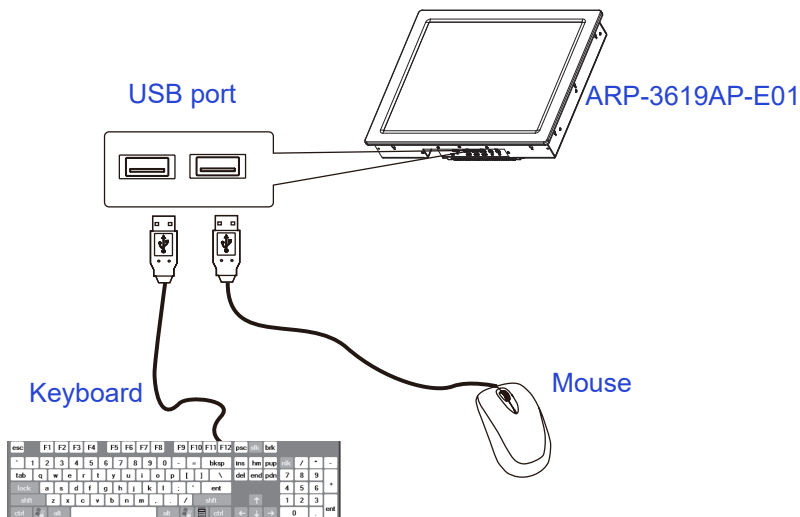

Figure 1
- Insert a USB keyboard and a USB mouse(not supplied) to ARP-3600AP-E01 Series touch panel computer for controlling on the computer(Figure 1). You can also insert a PS2 type keyboard or a PS2 type mouse(not supplied) to your computer(Figure 2).